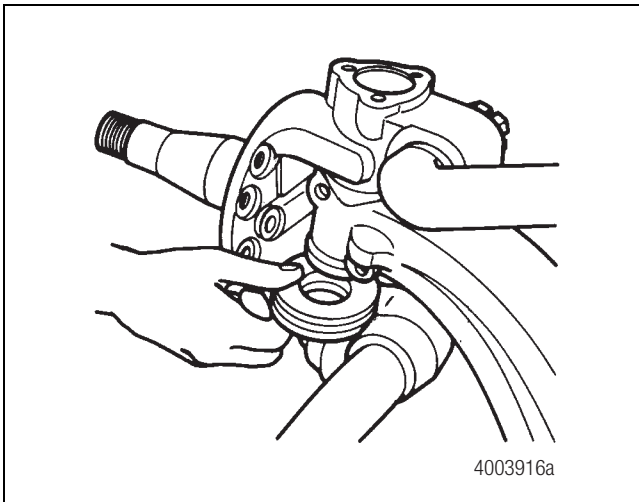

Figure 22
5. Slide the seal and thrust bearing assembly between the bottom of the axle center and knuckle. Verify that the seal is toward the axle center and over the thrust bearing. Figure 22.